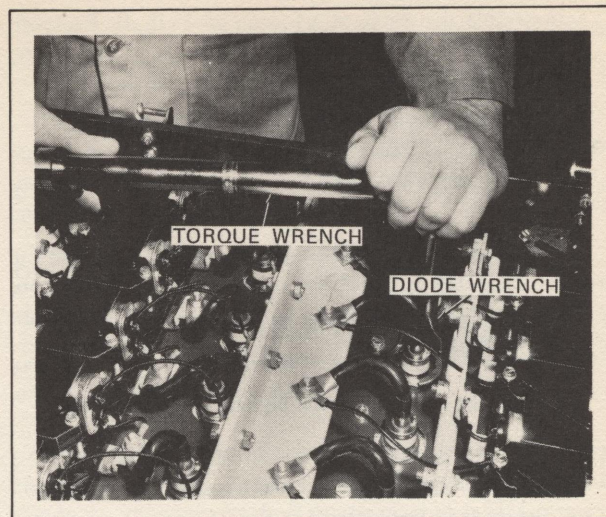

FIG. III-33. TORQUING DIODES ON TYPICAL PANEL.
3. Remove rectifier using special socket wrench (Part 2X1337). See Fig. III-33.